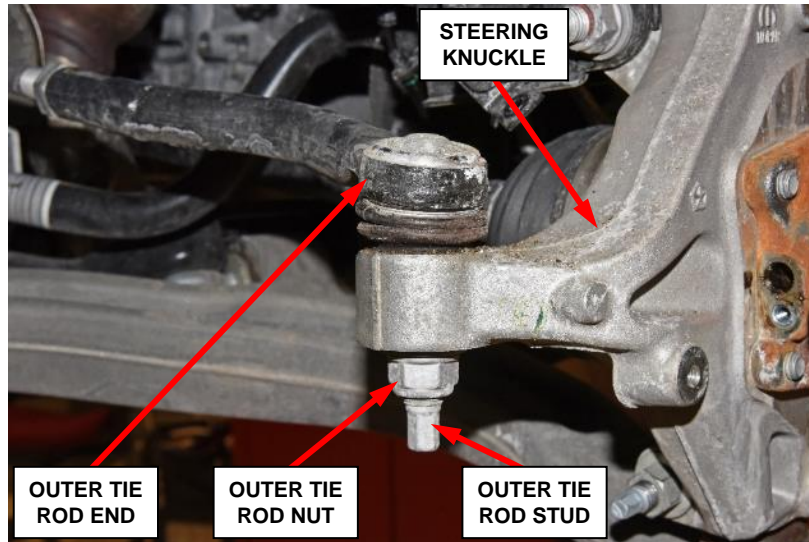

Figure 10 – Right Side Outer Tie Rod
12. Remove and SAVE the outer tie rod nut at the steering knuckle (Figure 10).
40. Install the nut onto the outer tie rod end stud. Hold the stud to prevent it from rotating while tightening the nut to 50 N·m + 90° (37 ft. lbs. + 90°) (Figure 10).